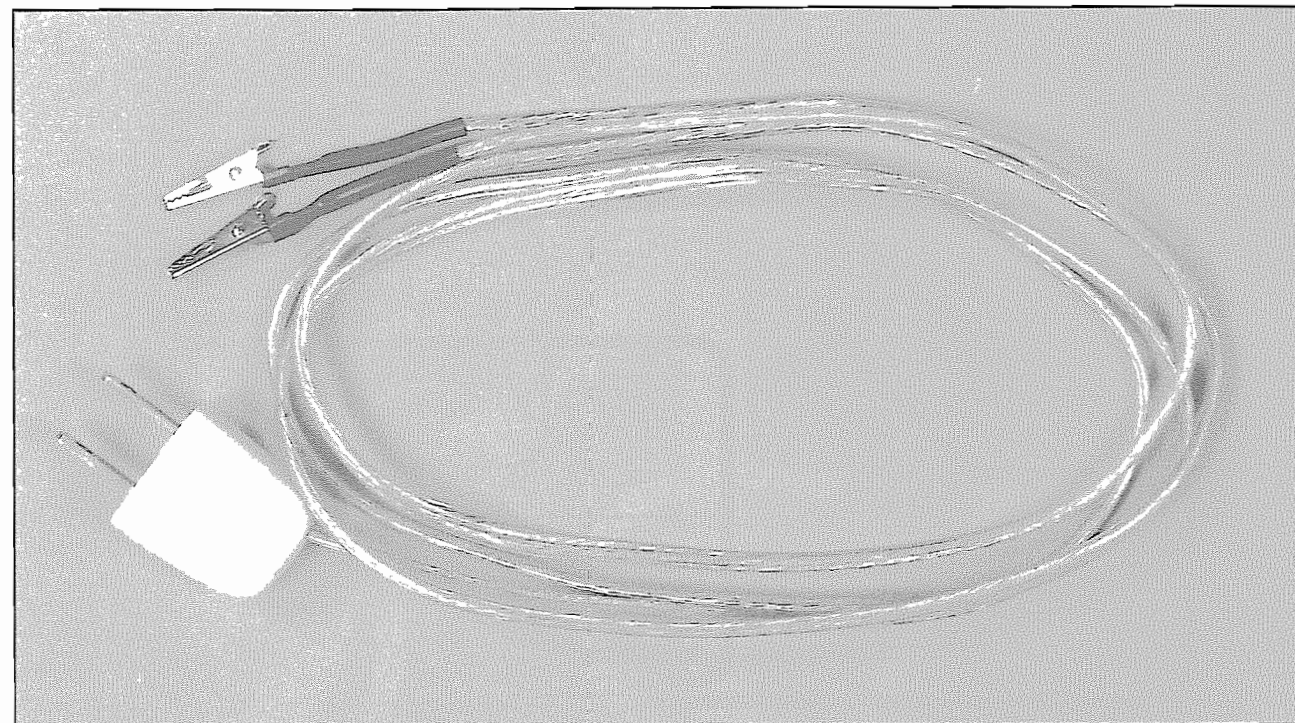
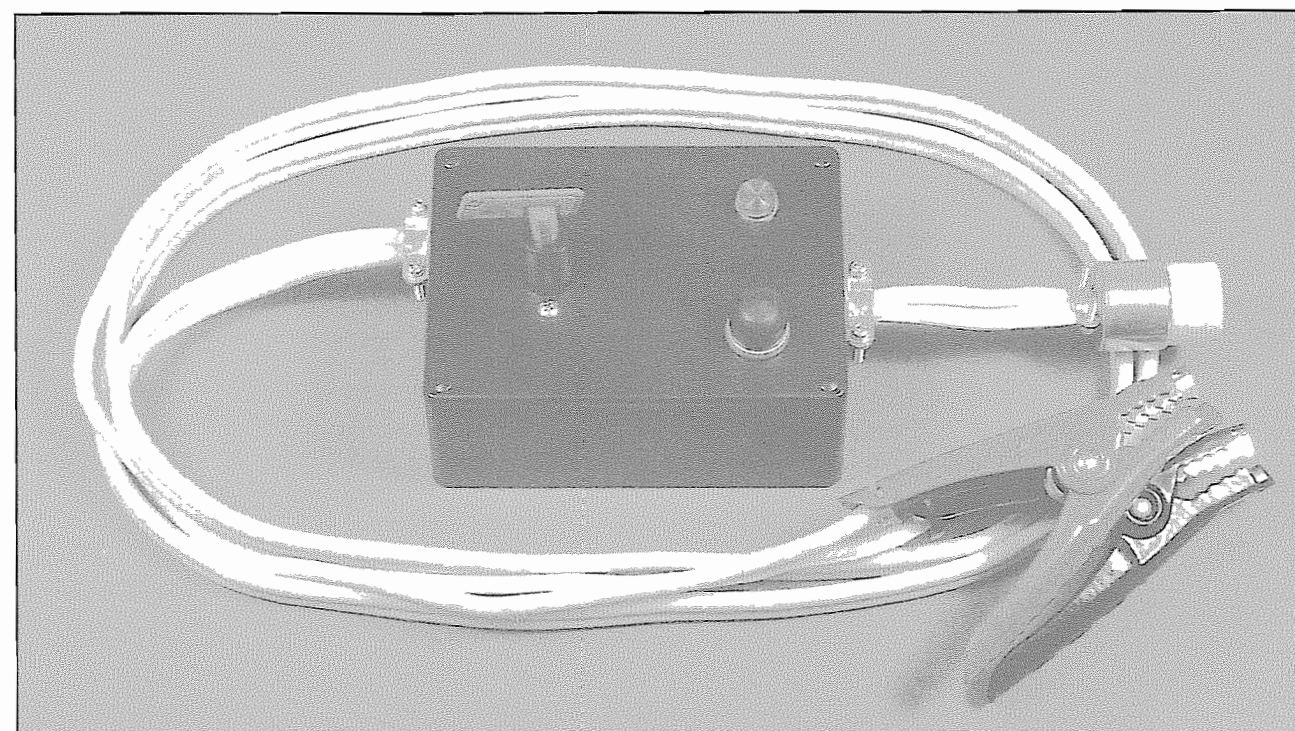

Figure 17-18. The 5 foot length of speaker wire with alligator clips and the male, two prong plug.
Figure 17-19. The finished rocket ignition system.
4. Strip one end of the 5 foot length of speaker wire, crimp on a pair of alligator clips, and install the male, two-prong plug on the opposite end (Figure 17-18). Replace the cover on the "project enclosure" (the plastic box), and the ignition system is finished (Figure 17-19).